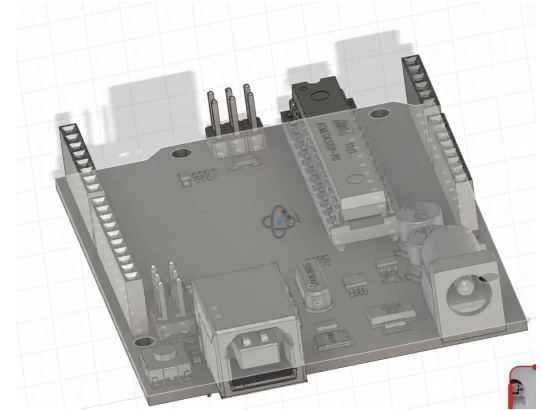

Figure 1.4
- To import, go to the Autodesk Fusion Data Panel, click Upload, and drag or select your STEP file. Once imported, you'll have a fully detailed component ready to use in your assembly. In this lesson, when we downloaded the file from GrabCAD, we were able to obtain a highly detailed base model of the circuit board to reference in our design (see Figure 1.4).